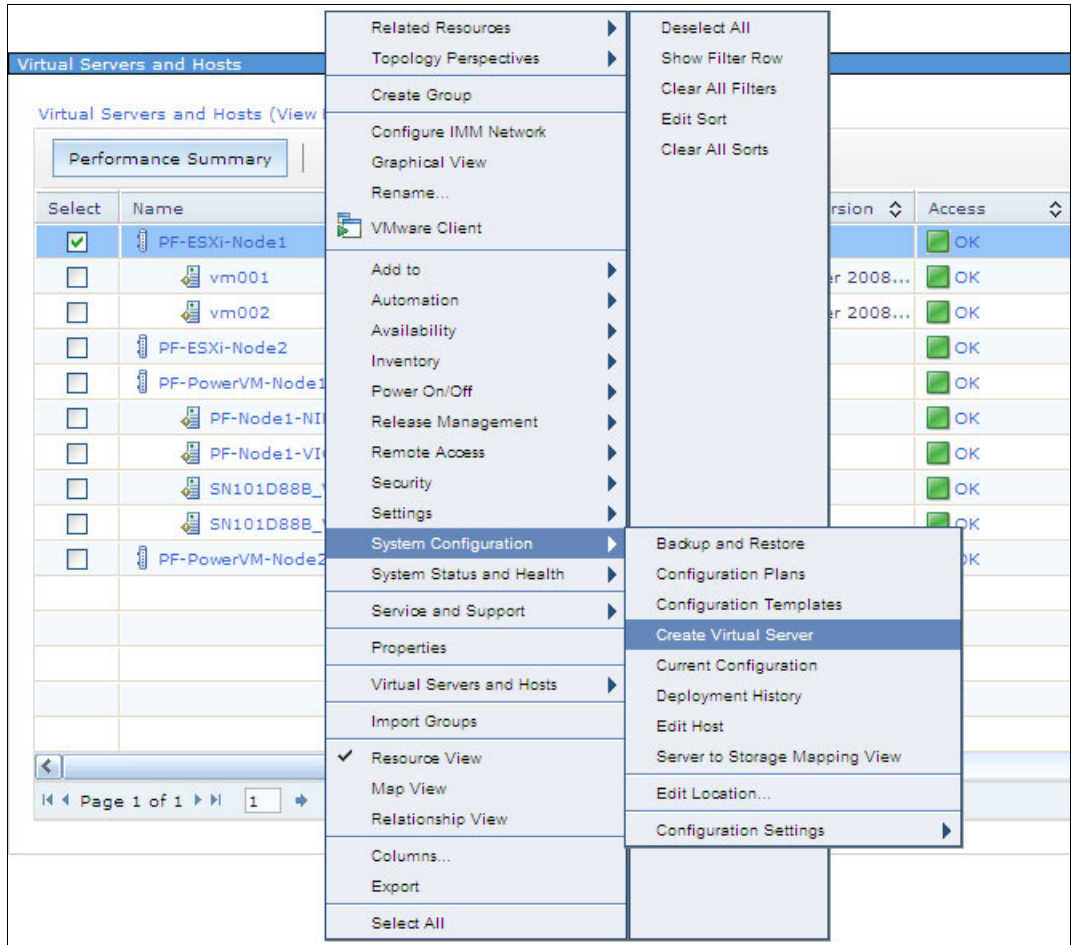

Figure 11-4 Create Virtual Server Actions menu for selected ESXi host
3. Select the first ESXi node and click **Actions** → **System Configuration** → **Create Virtual Server**, as shown in Figure 11-4.